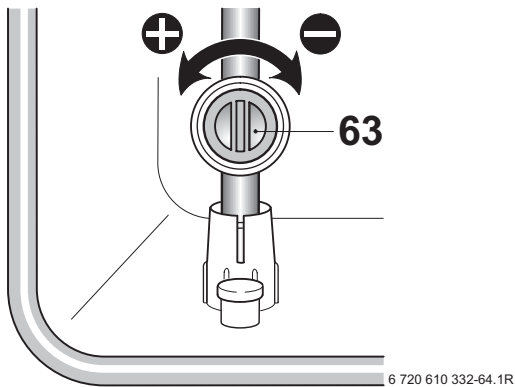

Fig. 47
- ▶ Adjust the gas flow restrictor (63) to obtain the CO₂ level given in Table 18. Refer to fig. 47.